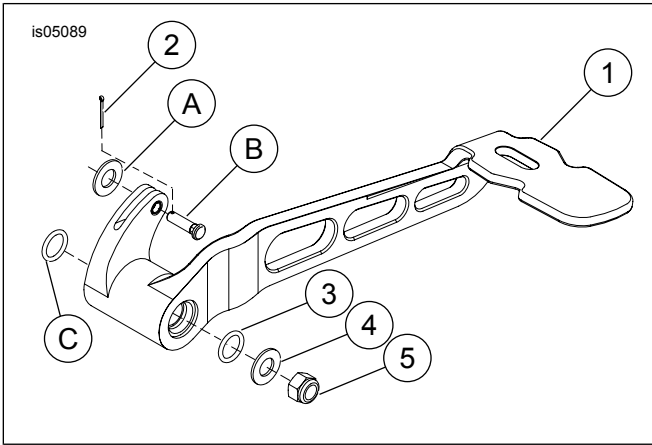

Figure 1. Service Parts: Billet Rear Brake Lever
See Figure 1 and Table 1.
1. See Figure 1 and Table 1. Remove the cotter pin and washer (A) from the master cylinder clevis pin. Discard the cotter pin.
1. See Figure 1 and Table 1. Insert new O-rings (3) on either side of the lever bushings. Install the new billet style brake lever (1) onto the shaft.
2. Align the holes in the lever and brake rod and insert the stock clevis pin (B).
3. Install the small saved flat washer onto the clevis pin and insert the new cotter pin (2).
4. Install the large flat washer (4) and locknut (5) from the kit. Tighten the locknut to 20–27 N·m (15–20 ft-lbs).